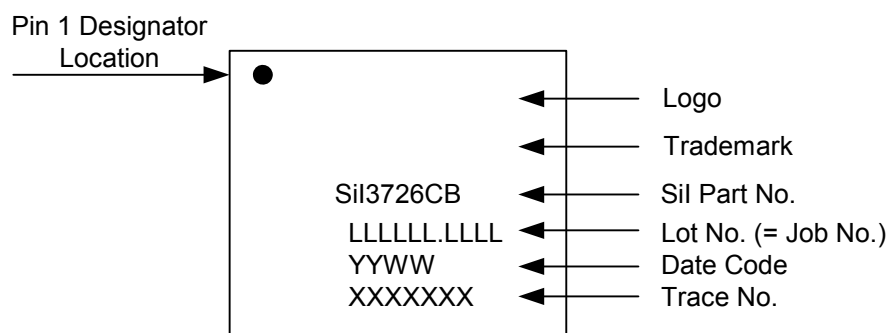

Figure 10: Marking Specification - Sil3726CB
- Sil3726CB (364-pin BGA, standard package) shown in Figure 10.